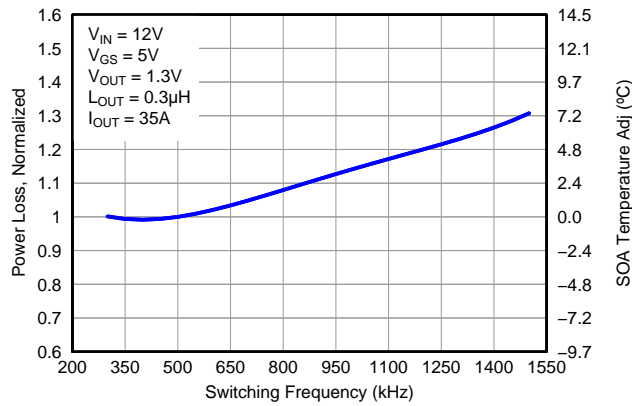

Figure 6. Normalized Power Loss vs Switching Frequency
- Normalized power loss for switching frequency ≈ 1.11 (Figure 6)